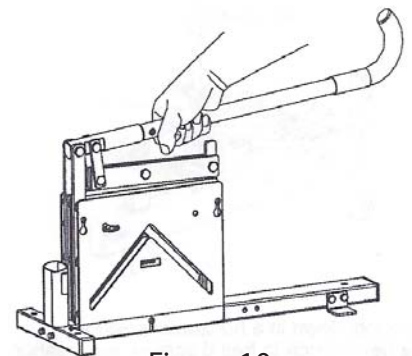

Figure 10
- 4) If transporting the EBC-100, confirm the Safety Pin is fully installed per the instructions above and hold the machine by the Handle. See Figure 10.